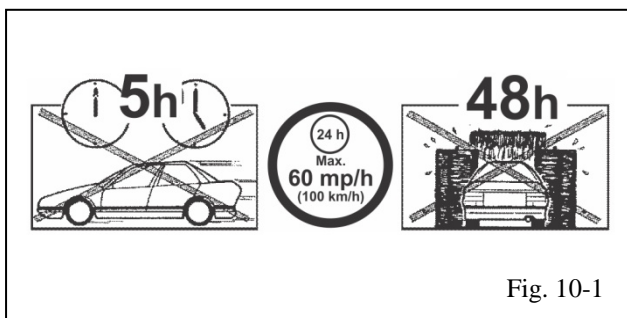

Fig. 10-1
- (a) Do not drive vehicle for 5 hours. (Fig 10-1).
- (b) Do not exceed 60mp/h (100km/h) within 24hrs. (Fig 10-1).
- (c) Do not use high pressure water or an automated car wash machine within 48hrs. (Fig 10-1).